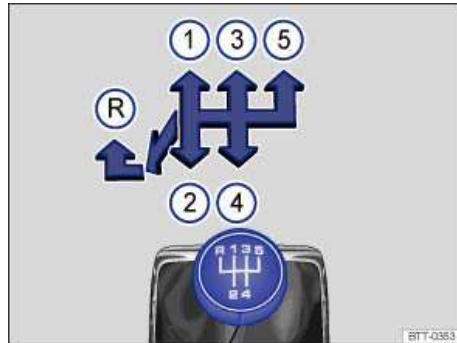
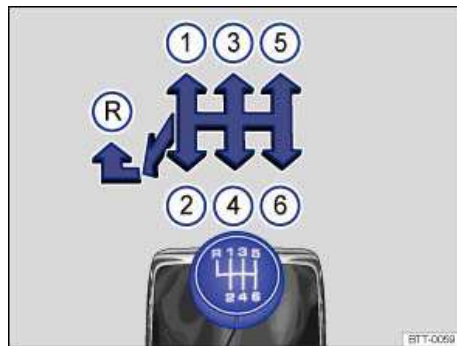

Fig. 138 Gearshift pattern of a 5-speed manual transmission.
Fig. 139 Gearshift pattern of a 6-speed manual transmission.
⇒ fig. 138 or ⇒ fig. 139.
- ☐ Move the shift lever to the left and then push forward into the reverse gear position ⇒ fig. 138 \(R\) or ⇒ fig. 139 \(R\).